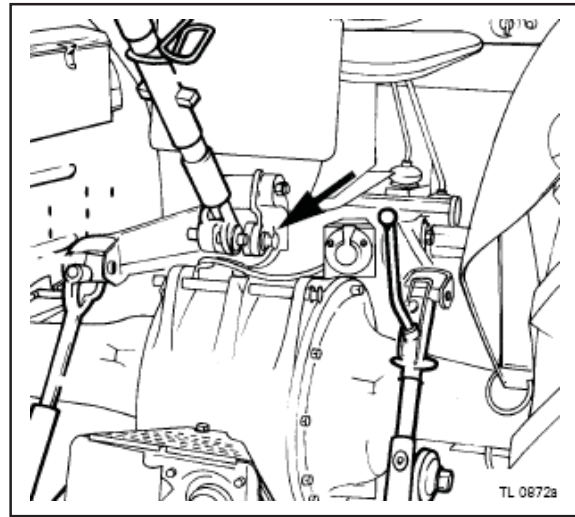

Fig. 69
6. Attach the top link to the hitch point on the tractor (Fig. 69).